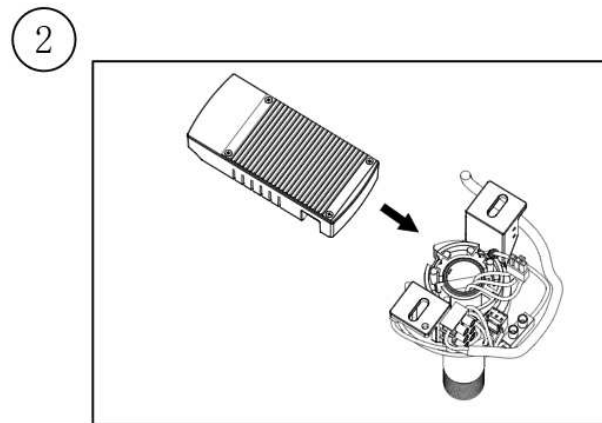

Fig. 6.2
2. Install the drive component onto the hanger by pushing through the mounting bracket; (Fig.6.2)